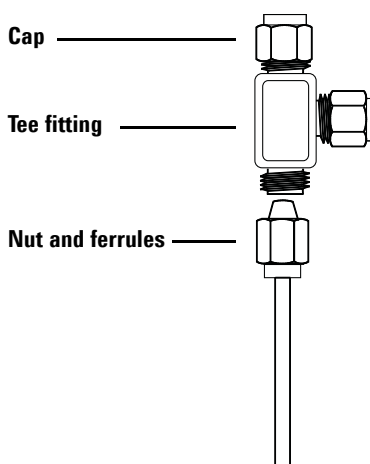

Figure 17 Swagelok tee
- 1 Cut the tubing where you want to install the Tee. Connect the tubing and Tee with a Swagelok fitting. See Figure 17.